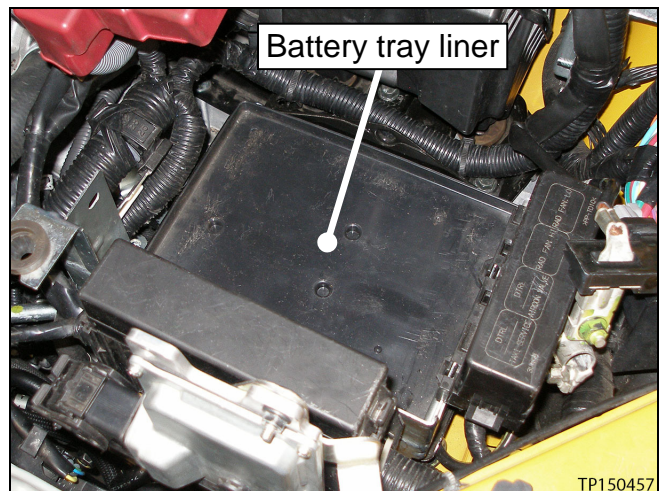

Figure 4
4. Remove the battery and battery tray liner (see Figure 4).